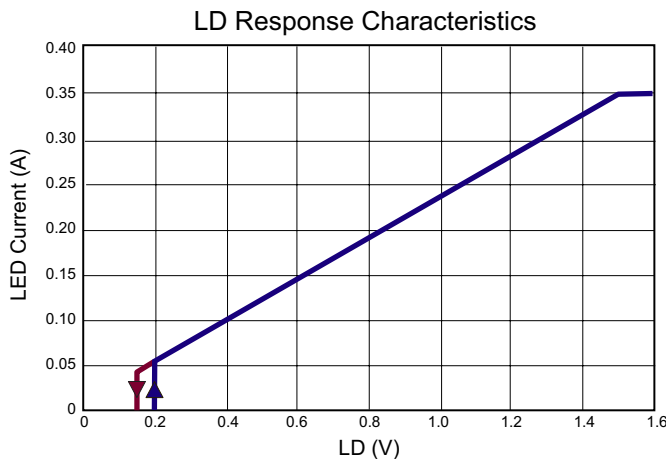

Fig.3. Typical linear dimming response of an HV9961 LED driver
When the voltage at LD falls below $1.5V$, the internal $275mV$ reference to the constant-current feedback becomes overridden by $V_{LD} \cdot 0.185$. As long as the current in the inductor remains continuous, the LED current is given by the equation (3) above. However, when V_{LD} falls below $150mV$, the GATE output becomes disabled. The GATE signal recovers, when V_{LD} exceeds $200mV$. This is required in some applications to be able to shut the LED lamp off with the same signal input that controls the brightness. The typical linear dimming response is shown in Fig.3.